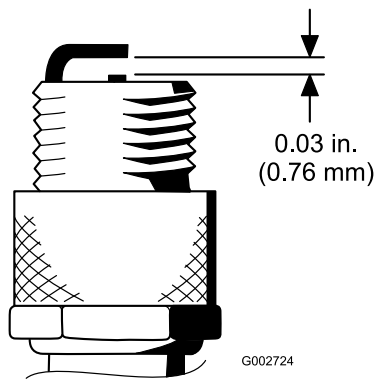

Figure 48
4. Set the air gap between the center and side of the electrodes at 0.030 in. (0.76 mm) (Figure 48).